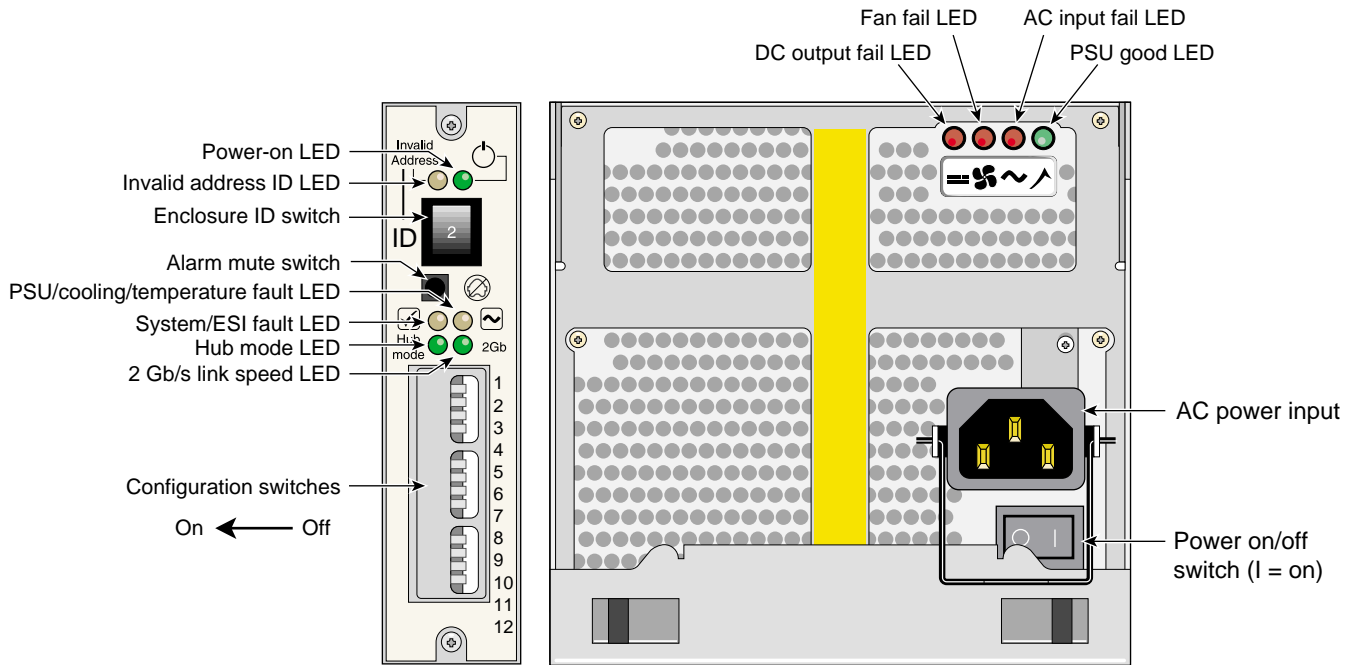

Figure 11-4 D-brick2 Operators Panel and Power Supply/Cooling Modules
Two power supply/cooling modules (PSUs) are mounted in the rear of the D-brick2. These modules supply redundant cooling and power to the enclosure and are auto-ranging. The supplies should be plugged into your SGI rack's power distribution strip (PDS). Four LEDs mounted on the rear panel of the D-brick2's PSU/cooling module indicate the status of the power supply and the fans (see Figure 11-4 on page 126).
Figure 11-4 identifies all controls and indicators on the ops panel. Note that the operator’s panel configuration switches slide left for “on” and right for “off.” For detailed descriptions of the LEDs and configuration switch information, see Chapter 5 in the *SGI Total Performance 9100 (2Gb TP9100) Storage System User’s Guide (P/N 007-4522-00x)*.
3. Turn the power switch on each PSU/cooling module to the “on” position (I = on, O = off). See Figure 11-4 on page 126 for switch locations.
The green “PSU good” LED illuminates. Also, the “power on” LED on the ESI/ops panel (see Figure 11-4 on page 126) of each module turns green when AC power is present.
1. Move the power switch on the rear of each PSU/cooling module to the “off” position (position **I** = on, **O** = off). See Figure 11-4 on page 126 for switch locations.